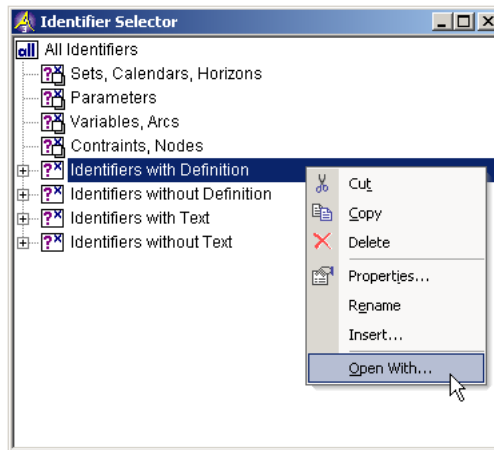

Figure 3.16: Identifier Selector window
- ▶ use the right mouse and select the **Open With...** command from the popup menu (see Figure 3.16).